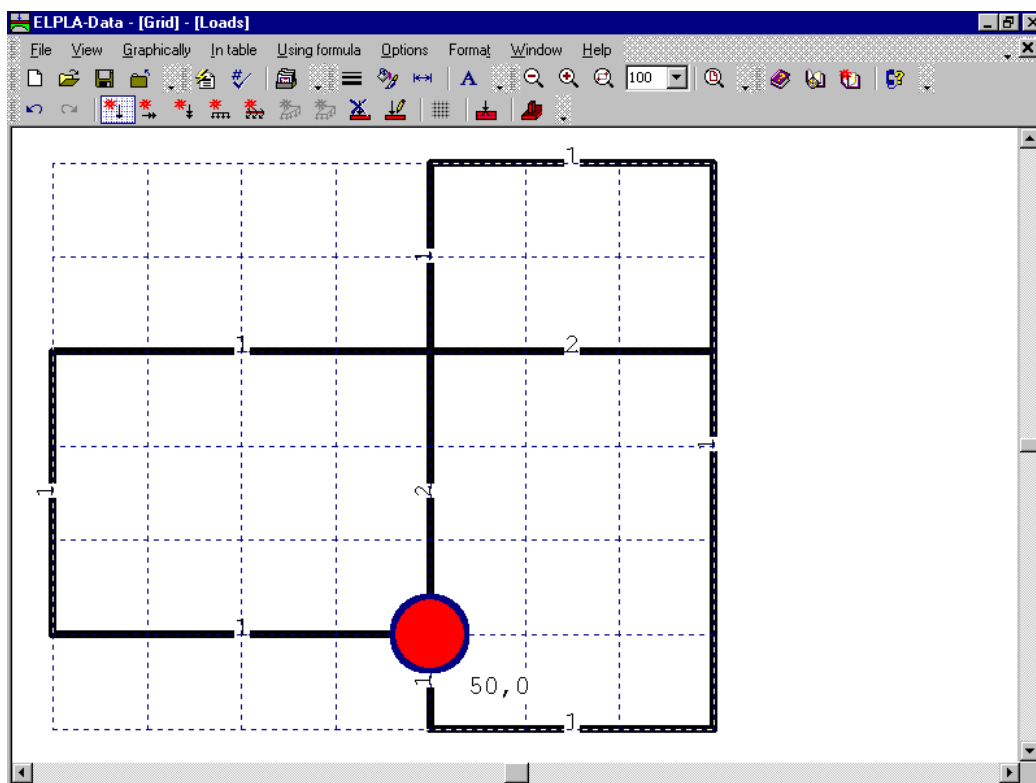

Figure 4-26 Concentrated load on the screen
After you have completed the definition of the concentrated load, the screen should look like the following Figure 4-26.
- Choose "Save loads" command from "File" menu in Figure 4-26 to save the load data
- Choose "Close loads" command from "File" menu in Figure 4-26 to close the "Loads" embedded program and return to the main window of *ELPLA-Data*